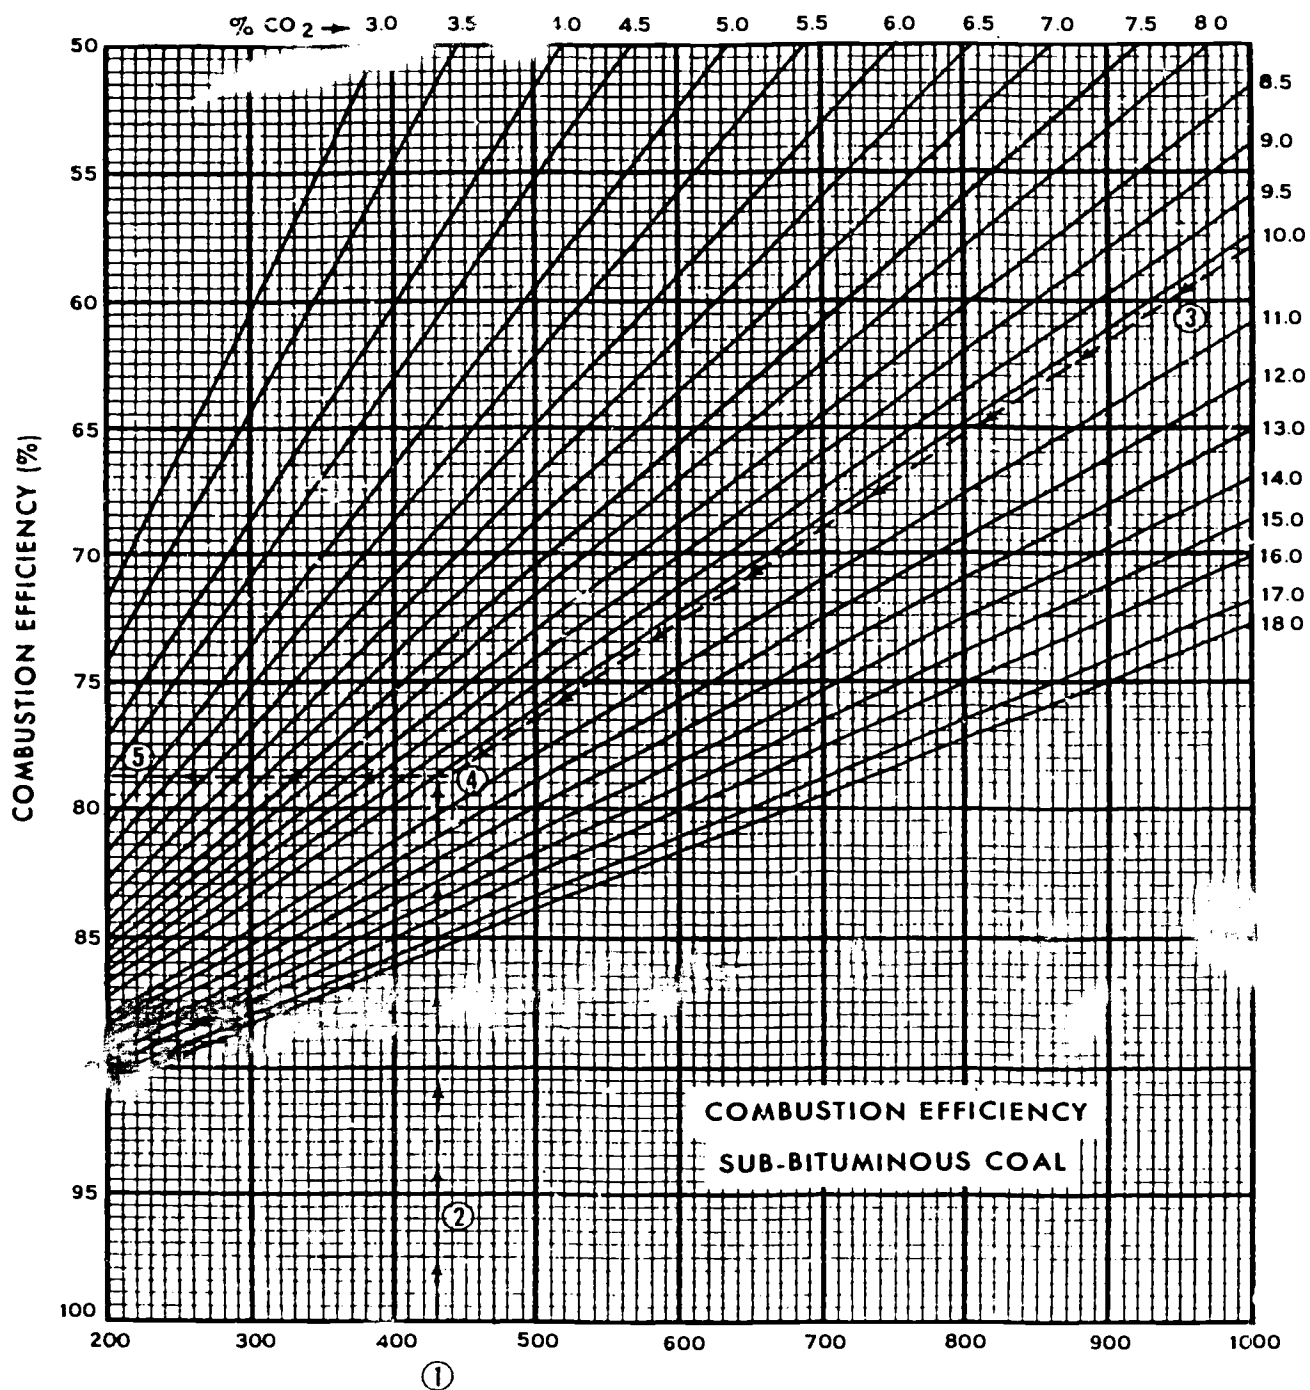

Figure 4. A Graph Used to Determine the Combustion Efficiency of a Heating System Firing with Subbituminous Coal
2. The following Combustion Efficiency Graphs (figures 4 through 6) may be used to determine the combustion efficiency when burning the more common fuels. When using these graphs, it is necessary to know: first, the percentage of the CO_2 in the flue gas; second, the temperature of the flue gas; third, the room temperature; and fourth, the type of fuel being used. With this information, determine the combustion efficiency in the following manner:
- e. Draw a horizontal line to the left-hand scale from where the two lines intercept. The point at which the horizontal line crosses the left-hand scale represents the percentage of combustion efficiency. See figure 4.